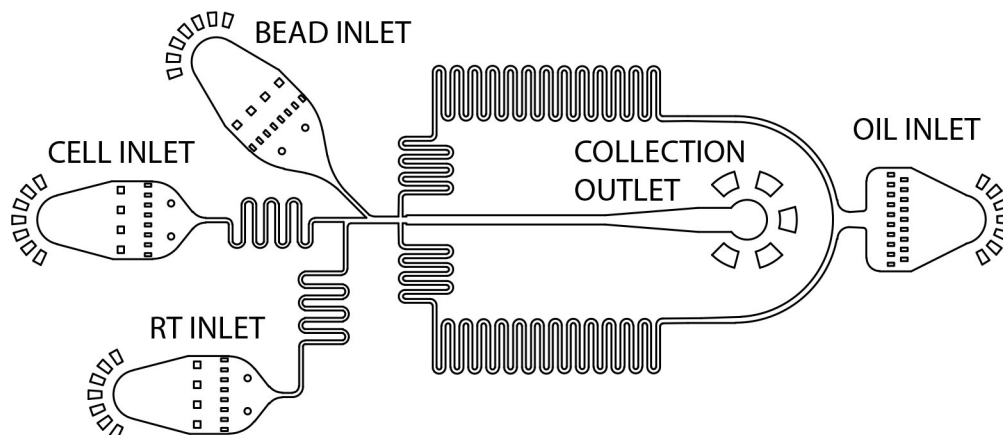

Figure 1. Schematic of an inDrop Seq encapsulation chip used for barcoding single cells
This protocol describes the silanization of inDrop Seq microfluidic chip shown in Figure 1. The silanization is necessary to render the surfaces of the channel network fluorophilic.
1. Using the tweezers, carefully attach the tubing on the SILANE syringe to the inlet for oil (Figure 1).